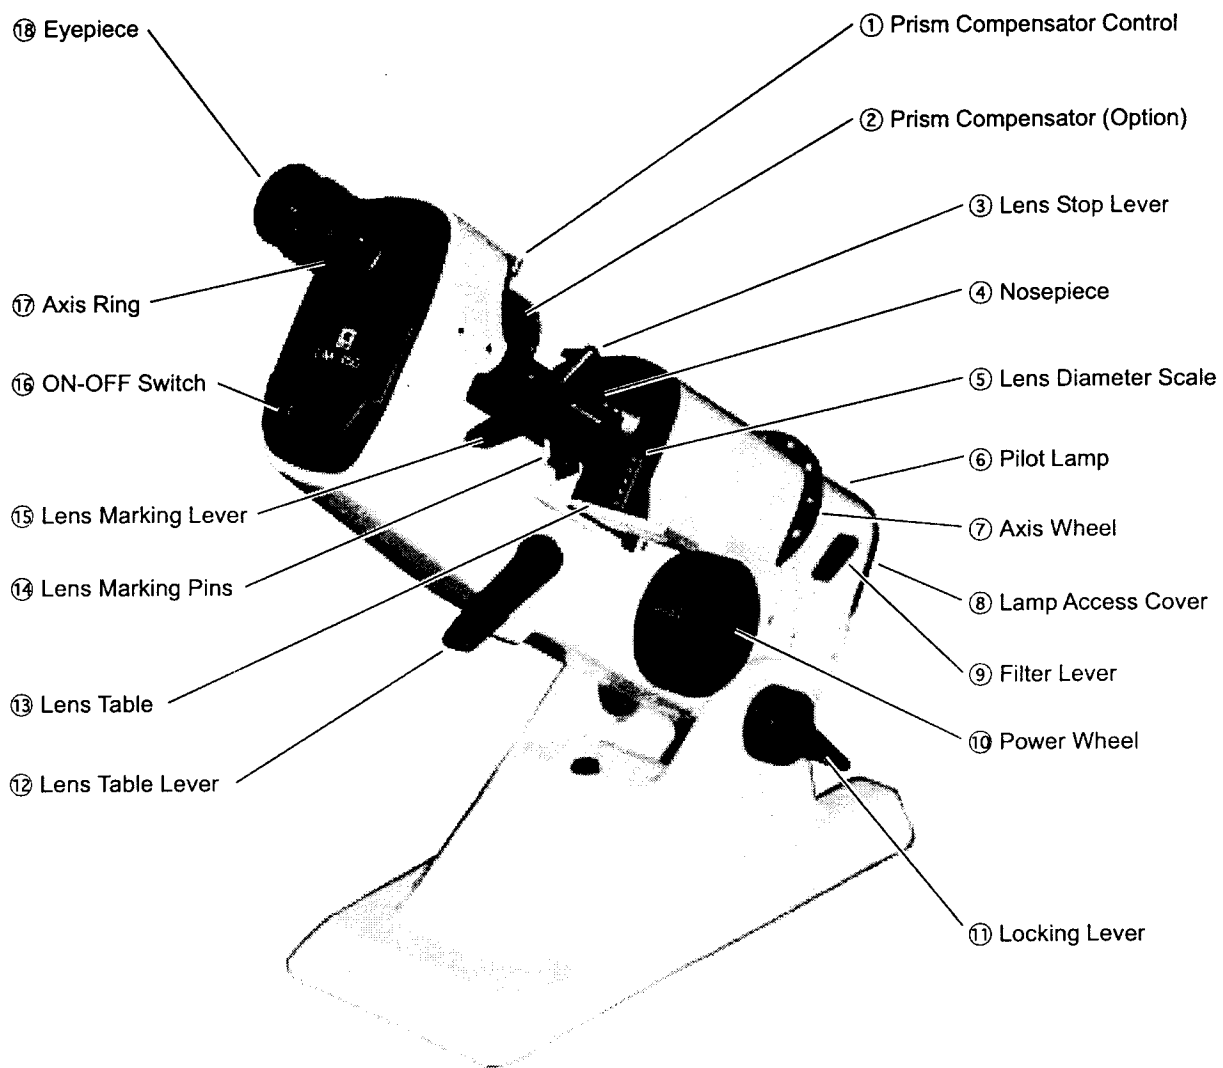
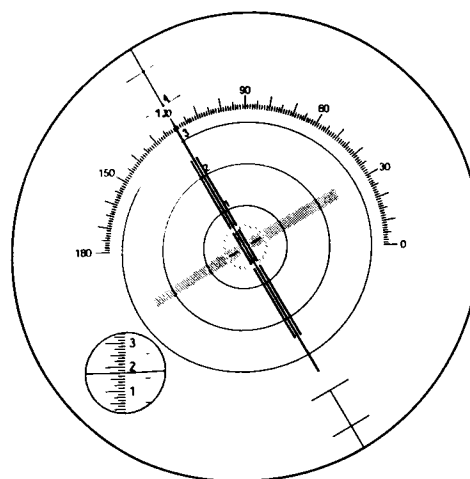

Fig.1 DESCRIPTION OF PARTS
Fig. 6 SPHERO CYLINDER LENS
- 2. Plug the cord into the electrical socket and turn the instrument on using the on-off switch (Fig.1, No.16).**
- 3. Looking through the eyepiece, make sure that the target is in the center without inserting a lens. If not, adjust the target by the P.C. (Fig.1, No.2).**
- 4. The green filter should normally be in place to permit more comfortable, as well as more accurate, reading of the target, by depressing the filter lever (Fig.1, No.9). It should only be swung away if more illumination is needed when measuring dark lenses.**
1. Place the lens with its concave side against the nosepiece (Fig.1, No.4). The lens mounted in a frame should be placed with its lower side against the lens table (Fig.1, No.13).
2. Release the lens stop lever (Fig.1, No.3) gently to hold the lens.
3. Looking into the eyepiece rotate the power wheel (Fig.1, No.10) until the target appears sharply in focus and slide the lens until centering is achieved (Fig.3).
4. The diameter of the lens is measured on the scale (Fig.1, No.5). Range of the scale is from 30mm to 90mm and step is 2mm.
5. Focus the longer line target (cylinder target) by rotating the power wheel, and rotate the axis ring (Fig.1, No.2) so that the meridian cross-line will align to the longer line target. (Fig.6)